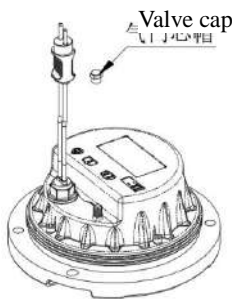

Figure 4-24
- Unscrew the valve cap at the lighting fixture bottom (see Figure 4-24).